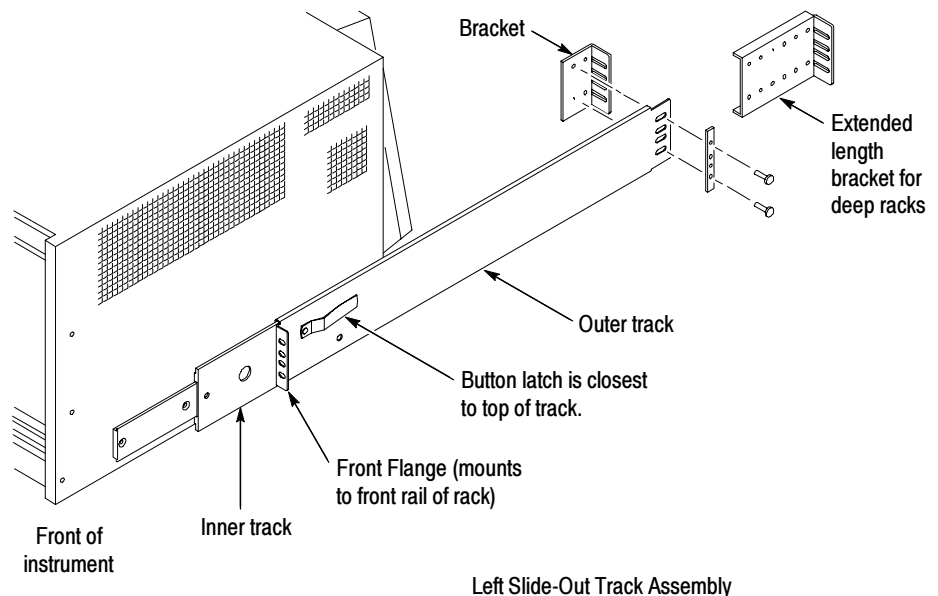

Figure 2: Assembling the slide-out track assemblies
3. Align the rear bracket to the right slide-out track as shown in Figure 2. Note that the rear bracket has two pairs of mount-through holes. When aligning the bracket and the track, select a pair of holes that mount the rear bracket so the flange-to-flange distance (see Figure 2) matches the front rail to rear rail spacing that you just measured in step 2.
4. Attach the rear bracket to the right slide-out track using two 10-32 screws and a bar nut as shown in Figure 2. Leave the screws loose so that you can adjust the overall length of the slide-out track assembly when installing the mainframe in the rack. Use the extended length brackets to comply with deeper rackmounts.